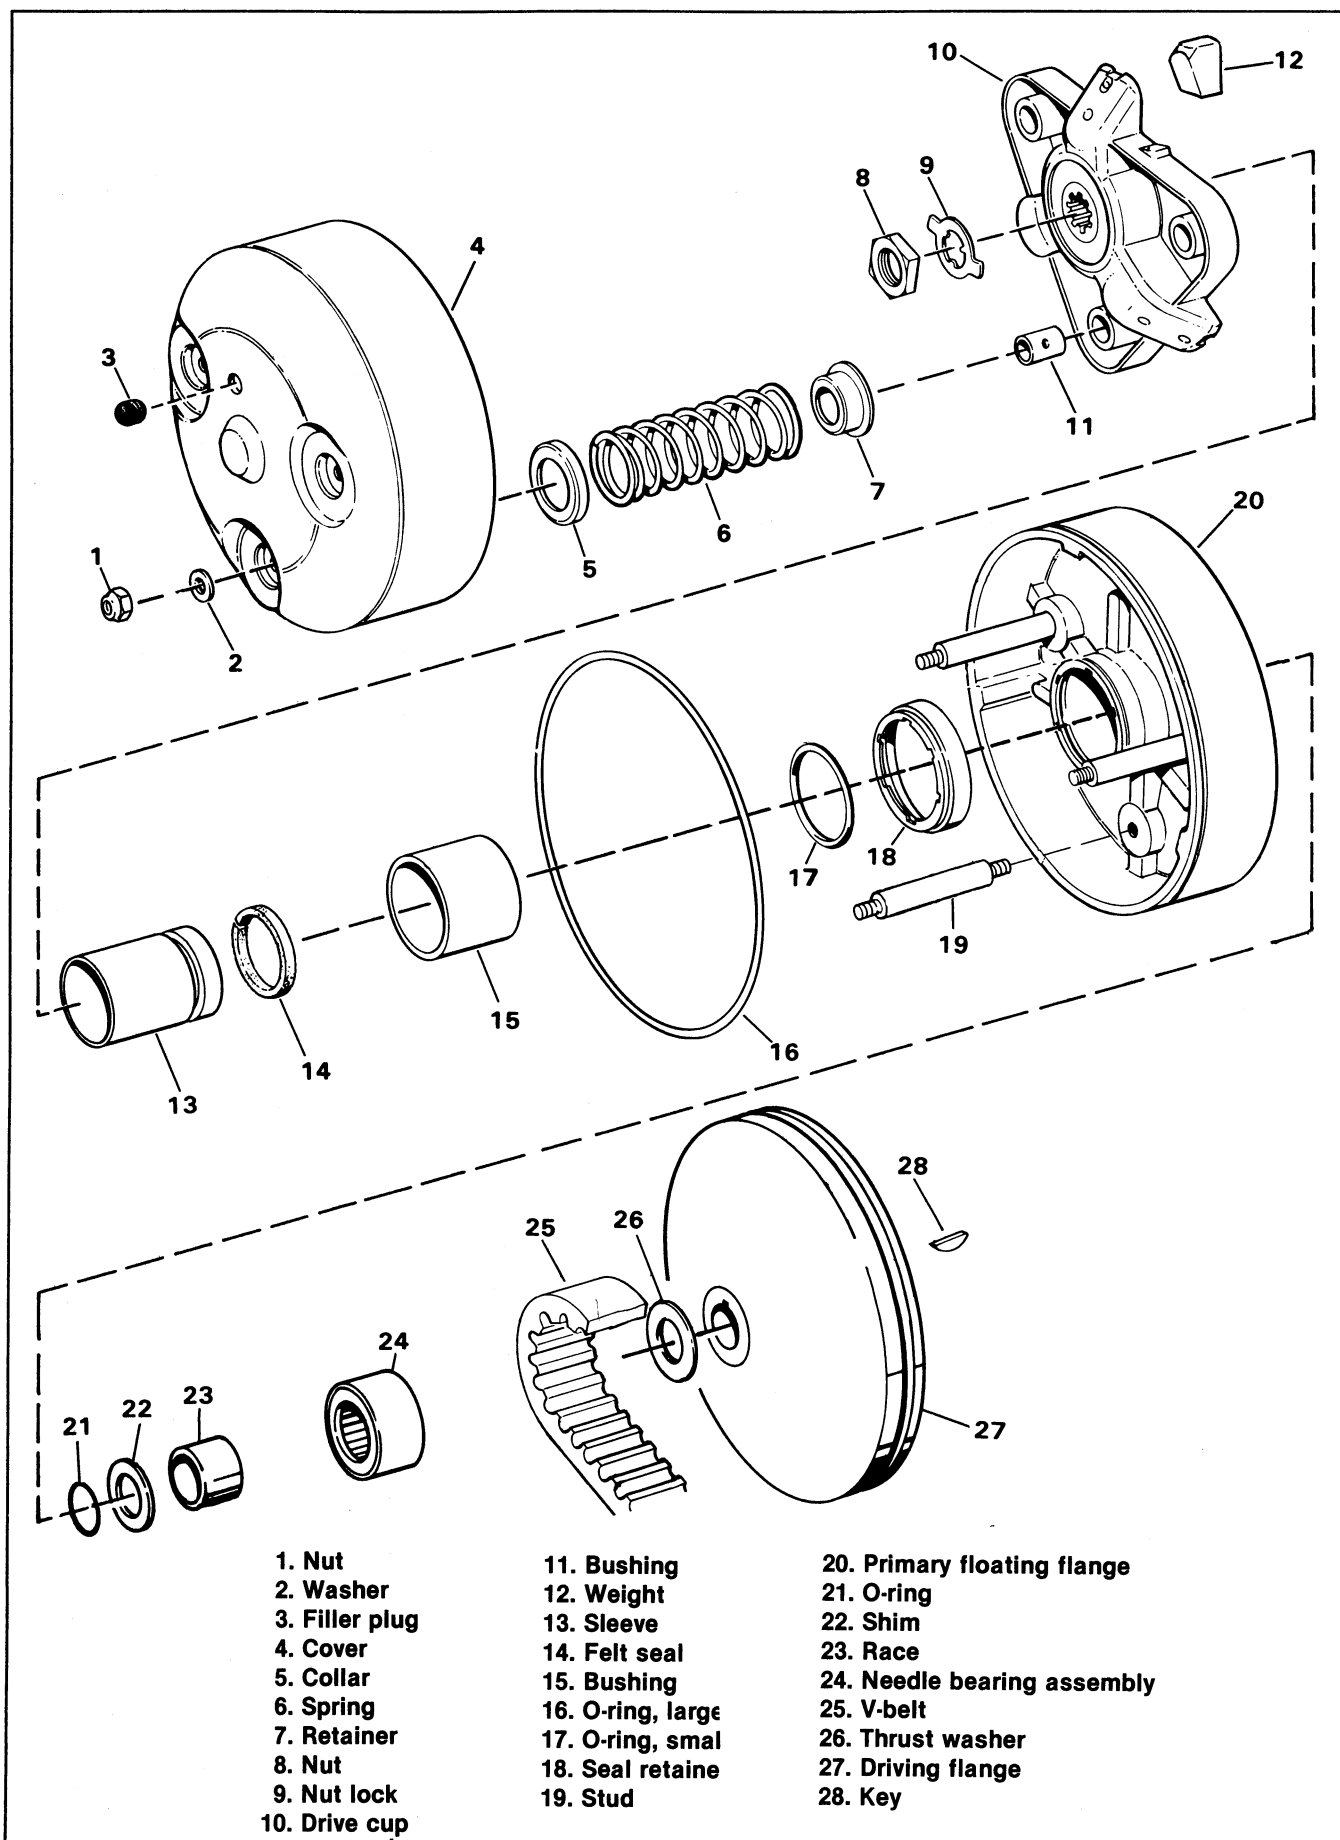

Figure 7-8. Primary Drive — Exploded View
CLEANING, INSPECTION AND REPAIR (Figure 7-8)
4. Check for wear of the bushing (15) in the floating flange. If bushing is to be replaced, install a new one using a shouldered press plug with 1.560 in. outside diameter. Install the bushing flush with the flange hub at the O-ring end.
5. If the studs (19) are damaged, they can be replaced. Heat the stud mounting area to 400°F to break down the Loctite, then remove the stud. Apply Harley-Davidson STUD 'N' BEARING MOUNT, Part No. 99626-77 to threads of new stud, then install the stud.
6. See Figure 7-8. The cast iron flange has the O-ring seal retainer (18) Loctited to the flange (20). If it becomes necessary to replace the retainer, it should be installed using Harley-Davidson STUD 'N' BEARING MOUNT, Part No. 99626-77. First apply the STUD 'N' BEARING MOUNT to the flange hub surface, then push the retainer until it bottoms on the end of the flange hub. Allow enough curing time before installing the O-ring or proceeding any further on assembly.
1. See Figure 7-8. Install the key (28) and driving flange (27) on the shaft. Install the thrust washer (26), bearing (24), race (23), shim(s) (22) and O-ring (21).
2. See Figure 7-8. Install the felt seal (14) on the sleeve (13) then insert the sleeve into the floating flange. A piece of writing paper or shim stock can be used to hold felt seal in groove while pushing sleeve into flange bushing. Install the floating flange (20) on the shaft.
6. See Figure 7-8. Install the O-ring (16), retainers (7), springs (6) and collars (5). Install the cover (4), washers (2) and nuts (1). Tighten the nuts to 54-66 in-lbs torque.
7. Fill the primary drive with 12 oz. of transmission lubricant. Install the filler plug (3).